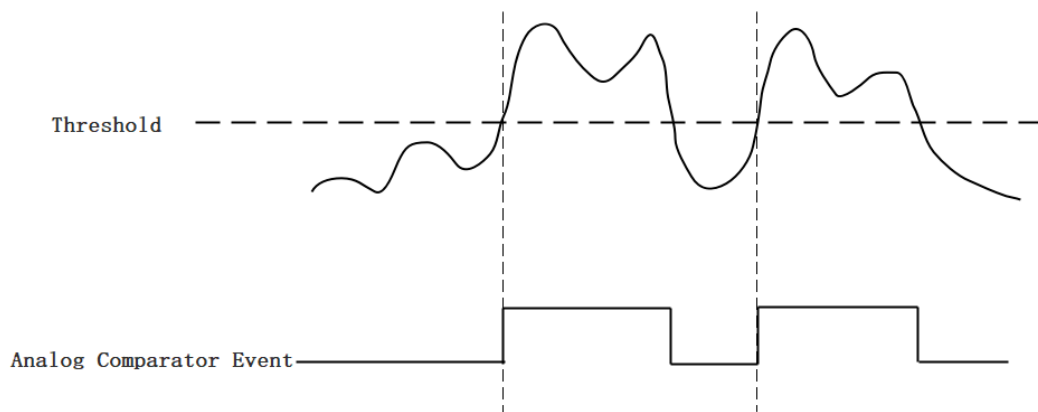

Figure 16 Rising Slope Trigger
*Rising Slope Trigger:* The Edge comparator output is high when the signal goes above the threshold; the output is low when the signal goes below the threshold as shown in Figure 16.